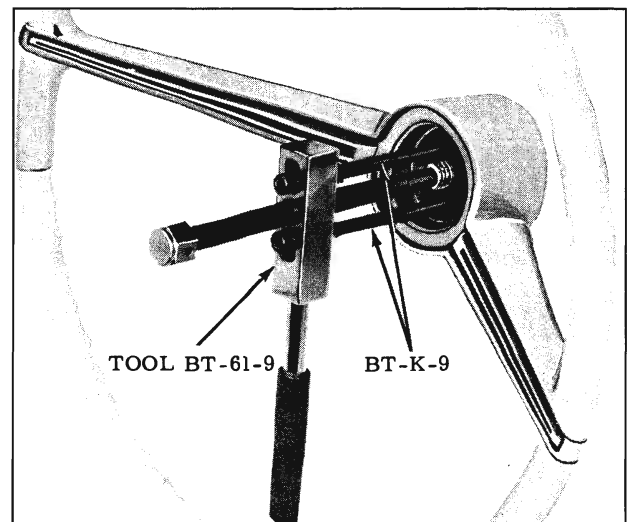

Fig. 4-282 Pulling Steering Wheel
4. Using Tool BT-61-9, pull steering wheel from steering shaft. (Fig. 4-282)